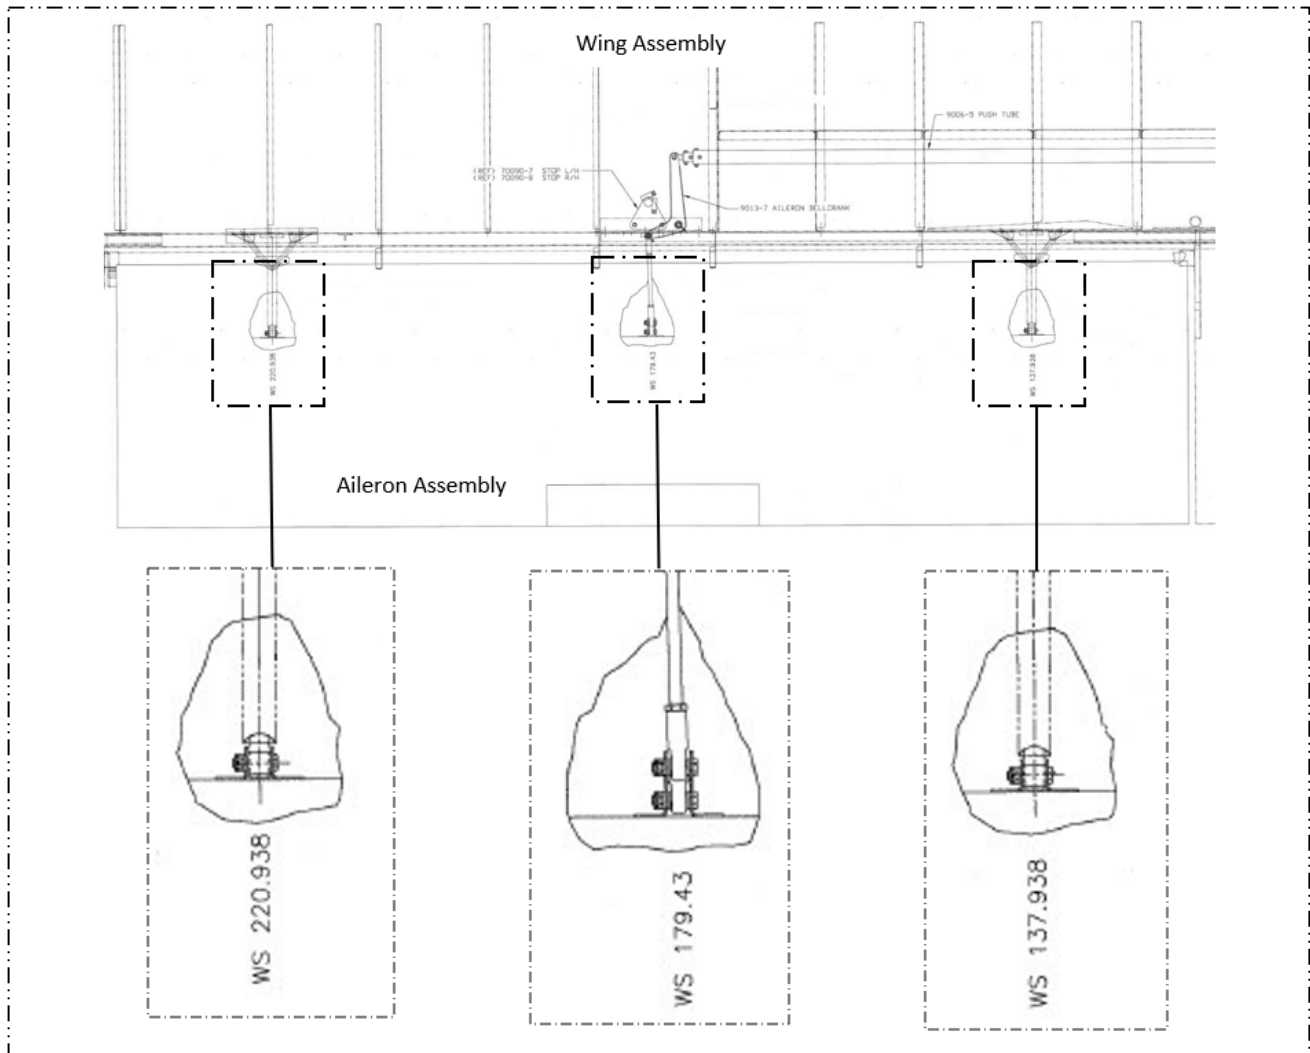

Figure 45-11
- d) For single cockpit, dual cockpit single control and dual cockpit dual control configurations: Change out the existing hardware used to connect the Aileron hinges to the Wing and incorporate castellated nuts per figure 45-11. Torque hardware per Appendix B Torque Chart.